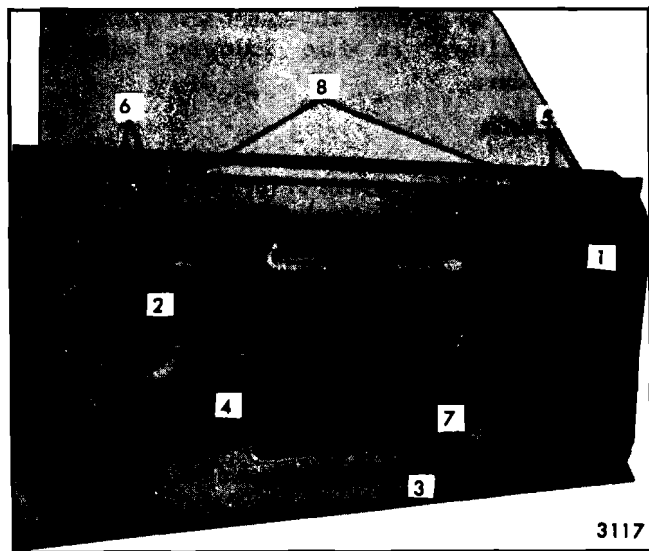
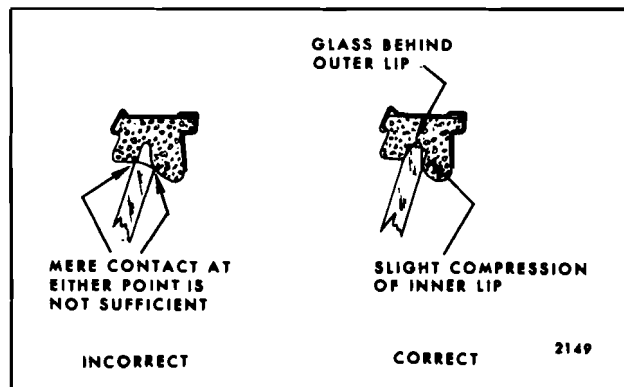

Fig. 6-94—Front Door Window Removal and Adjustment
Fig. 6-95—Window to Side Roof Rail Weatherstrip Alignment
2. With the window in the full-up position, remove front and rear up-travel stops ("1" and "2", Figure 6-94).
3. Lower window to a three-quarter-down position; remove lower sash channel cam attaching screws ("3", Figure 6-94). Remove window from door by lifting straight-up.
A rotated glass can be corrected by adjustment of inner panel cam ("4", Figure 6-94). Up or down adjustment is available at front and rear up-travel
stops. In or out adjustment is available at front and rear guides. In addition, the regulator, on manually operated units, is equipped with a single up-travel sector gear stop. This stop is bolted to the inner panel and is adjustable up or down (See Figure 6-94).
- Adjust rear guide upper attachments ("6", Figure 6-94) for proper fore or aft position of glass.
- Adjust upper attachments of front and rear guides ("5" and "6", Figure 6-94) for proper glass to side roof rail weatherstrip relationship.
- Adjust window up-travel stops ("1" and "2", Figure 6-94) for proper glass to side roof rail weatherstrip contact (See Figure 6-95).
NOTE: On manually operated windows, adjust sector gear stop ("7", Figure 6-94) after adjusting up-stops "1" and "2".
- Adjust window stabilizer strips ("8", Figure 6-94) for proper glass contact and ease of window operation. The strips should